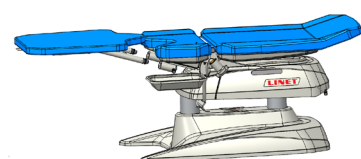

Fig. 1 Fitting the patient surface
- 2) Insert the guide bars into both holes in the bracket under the seat (Fig. 1)